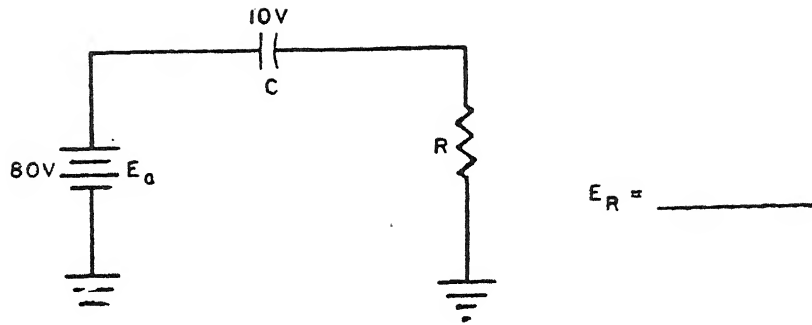

Figure 1
1. Kirchhoff's voltage law states in effect that the algebraic sum of all the voltage drops in a closed loop must, at any instant, equal zero. This may be used to determine the voltage across some component in a circuit when the volt-ages across all but that component are known. Figure 1 illustrates this.